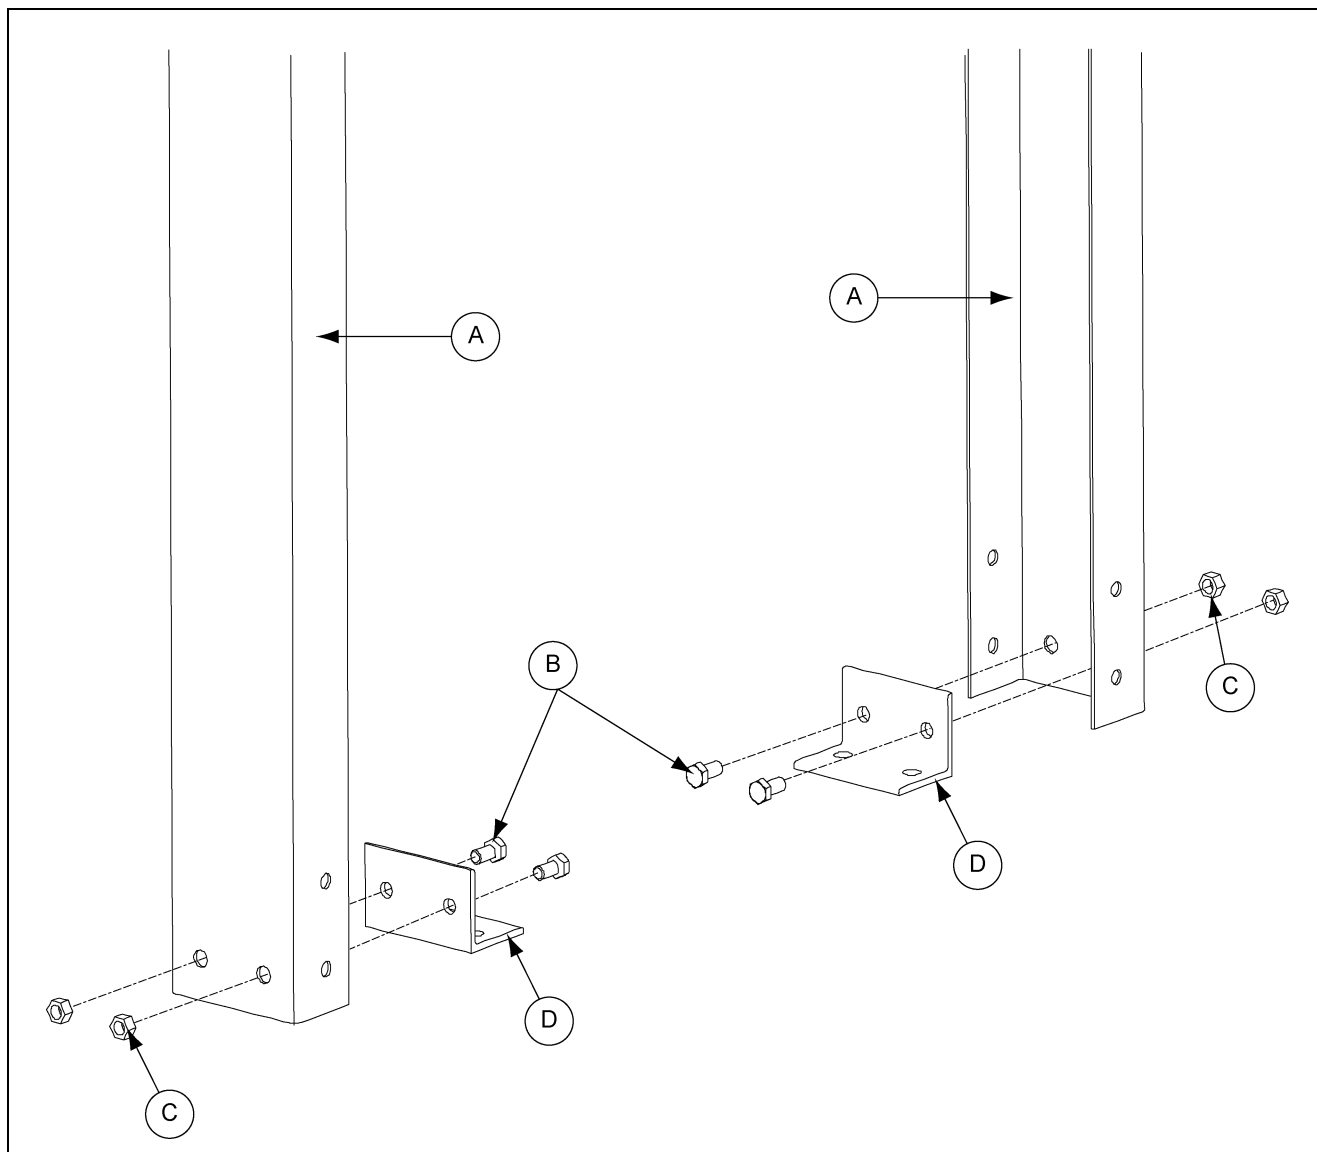

Figure 2G
1. Start assembly by taking the two (2) bottom columns (**STC00348** - 5' or **STC00349** - 10' depending on height of tower) and attaching bottom angle joint (**STC00354**) using four (4) 1/2" x 1" HHCS bolts and four (4) 1/2" hex nuts. *(See Figure 2G.)* **NOTE:** Angles go to inside of leg channel.